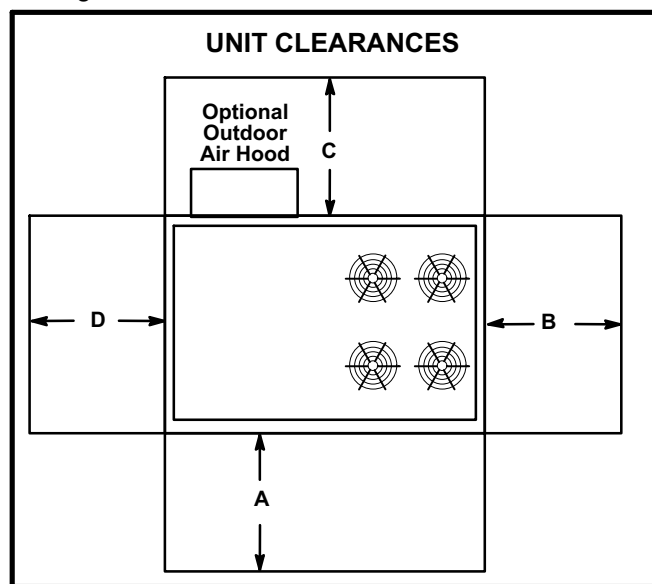

FIGURE 1
See figure 1 for unit clearances.
- Specified installation clearances must be maintained when installing units. Refer to figure 1.